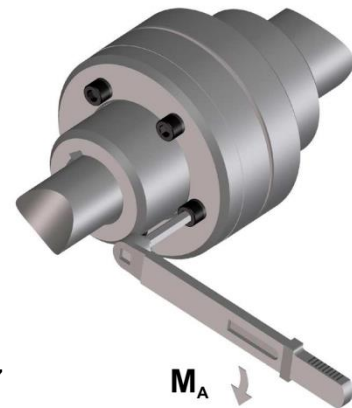

Fig. 17
- ❑ Before initial operation, please check the screw tightening torques M_A acc. Table 8 (Fig. 17).
- ☐ Tighten the screws to the tightening torques M_A stated in Table 8 (Fig. 17).